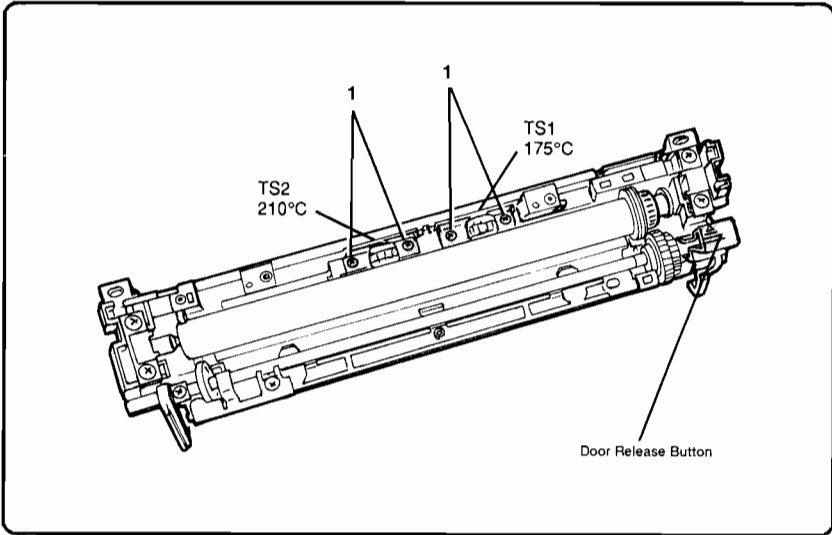

Figure 6-63. Thermostat (TS1 and TS2) Removal (continued)
3. Remove the screws (2) securing the faulty Thermostat (see Figure 6-63, callout 1).